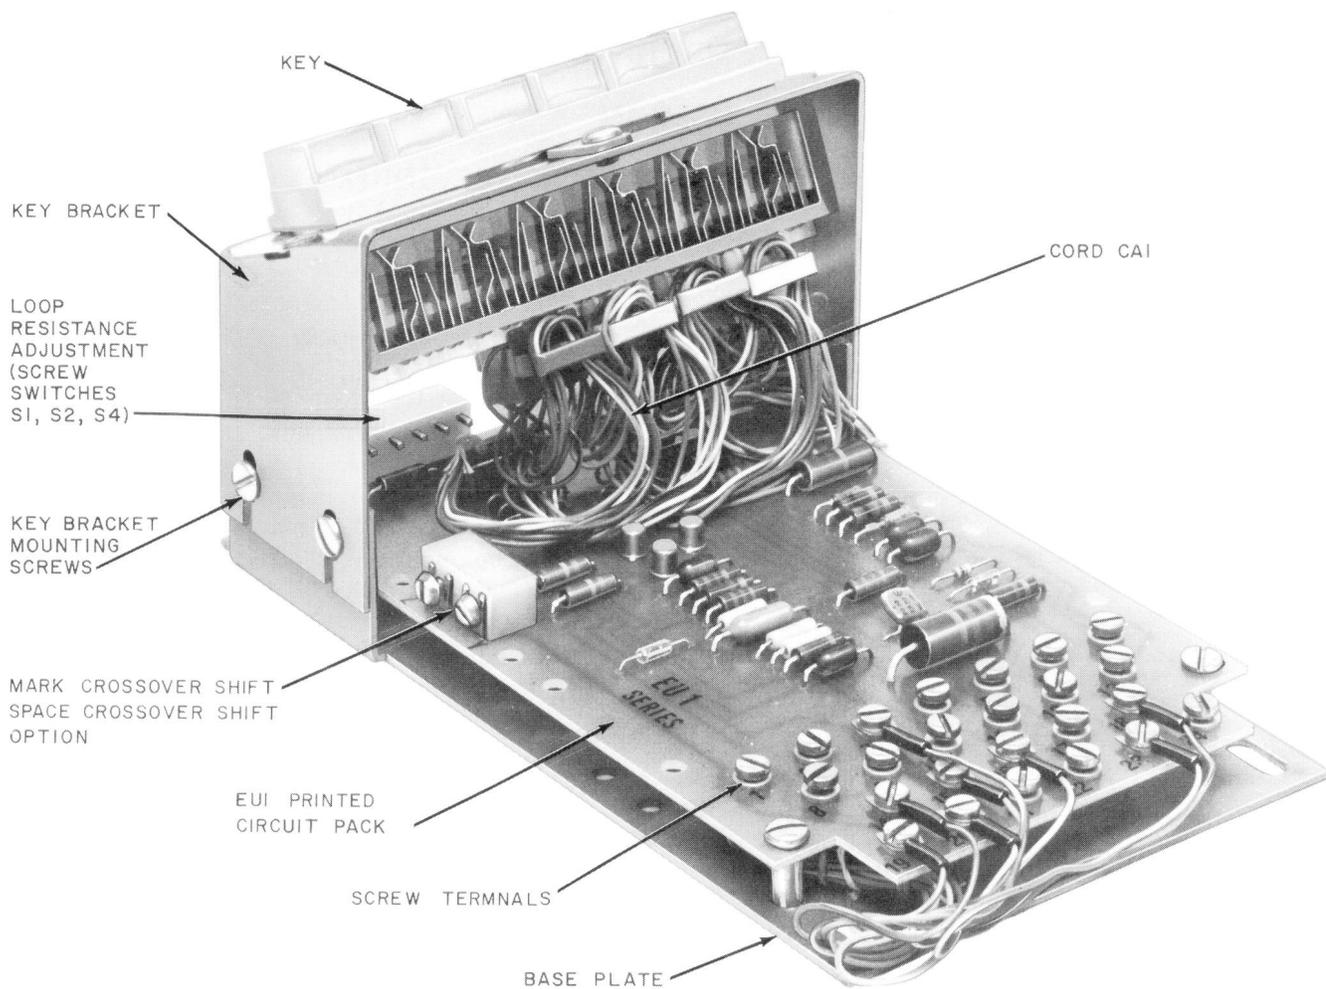

Fig. 1—Data Set 109C-1
1.02 Data Set 109C-type (Fig. 1) is a low-speed (up to 300 bauds), half-duplex, serial transmission, ungrounded dc (baseband) data set. It is specifically designed to mount within a suitably configured model 33 or 35 teletypewriter (TTY). The data set requires approximately 3 watts peak power of filtered +24 volts dc which is normally supplied by the TTY call control unit.
2.01 Data Set 109C-L1 (Fig. 1) consists of a metal bracket, a 635T2 key, and an EU1 circuit pack.
3.07 A resistor pad arrangement is built into the data set EU1 circuit pack, allowing resistance to be added to the metallic loop. By opening or closing various screw switch combinations, the line can be built out to a nominal value of 2000 ohms, in 8 steps of approximately 270 ohms each. See Fig. 1 and Table A.